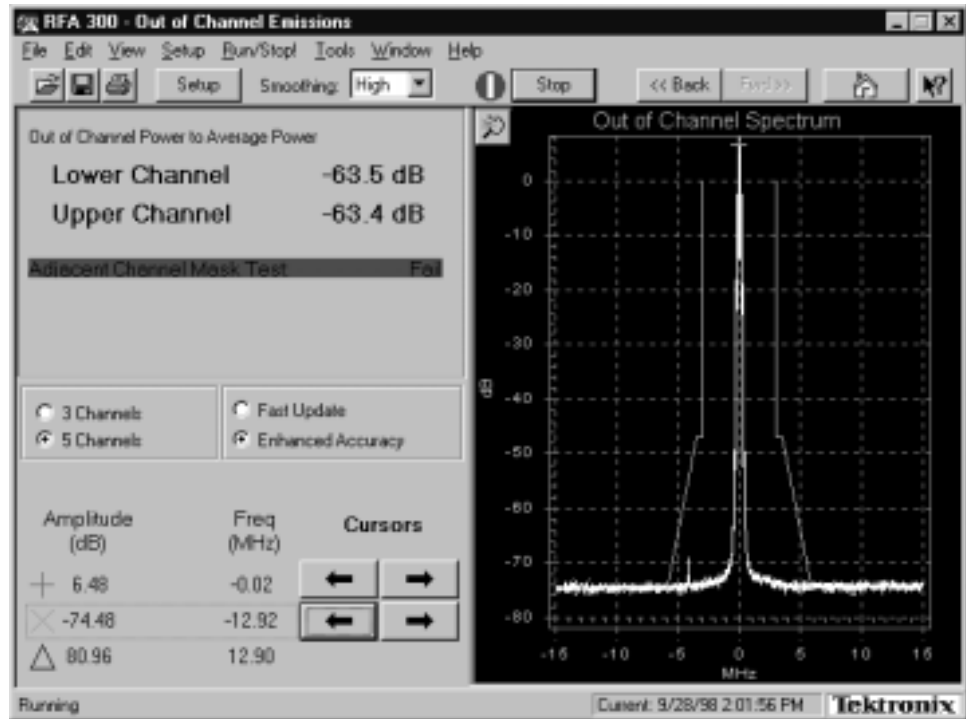

Figure 4-7: Out of Channel Measurement limits test
9. Use the RFA300A measurement set delta markers to compare the peak signal power to the noise floor as shown in Figure 4-7.